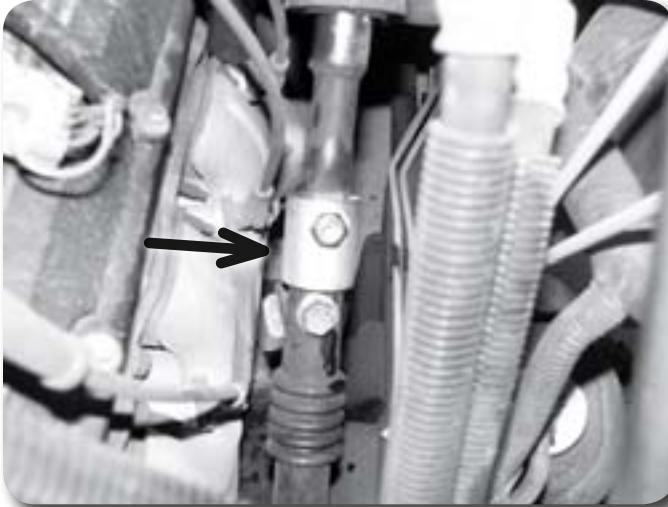

Figure 18
33. Install the provided steering extension into the lower steering shaft and fasten with the factory hardware **Figure 18**. Leave loose. There is an internal alignment tab that must fit in the groove that is cut into the steering extension.